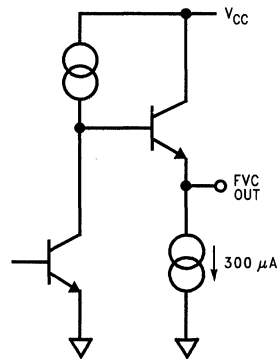

FIGURE 15
**FVC OUT (Pin 27):** The Frequency to Voltage Converter Output is a DC voltage proportional to frequency and is used to set the free-running frequency of the Voltage Controlled Oscillator. This signal goes to the VCO input via a resistor which is part of the PLL filter. The voltage range is approximately 0.6V to 6.0V for 15 kHz to 125 kHz. See *Figure 15* for the output schematic.